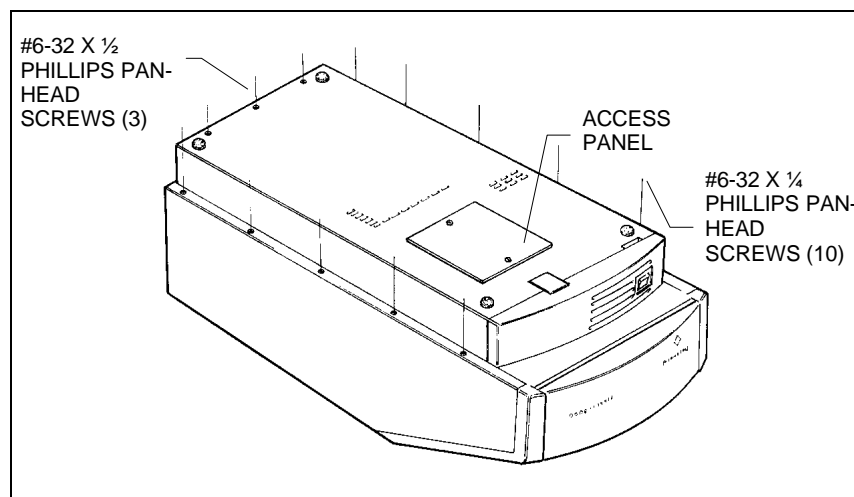

Figure 6-8. Removing the top cover
1. Turn the unit over, onto its top. (Figure 6-8)